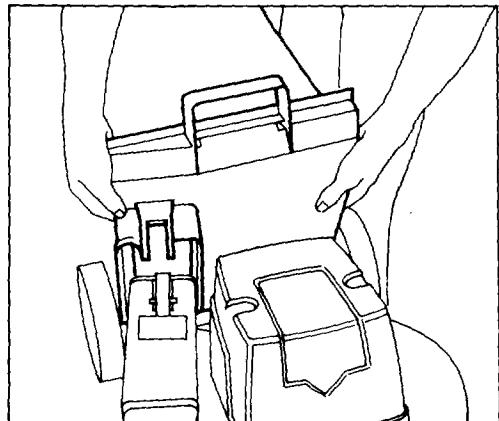

Figure 11
3. INSTALLING BAG (Fig. 11) — Hold front of bag frame and bag door together. Then place opening in bag door against flanges on rear chute and slide bag door down.